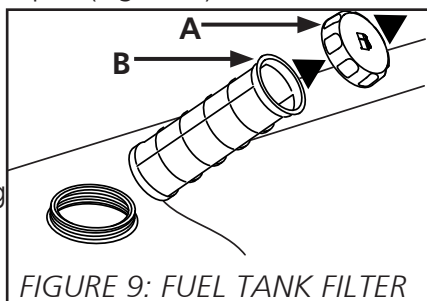

FIGURE 9: FUEL TANK FILTER
1. Remove fuel tank cap A (Figure 9)